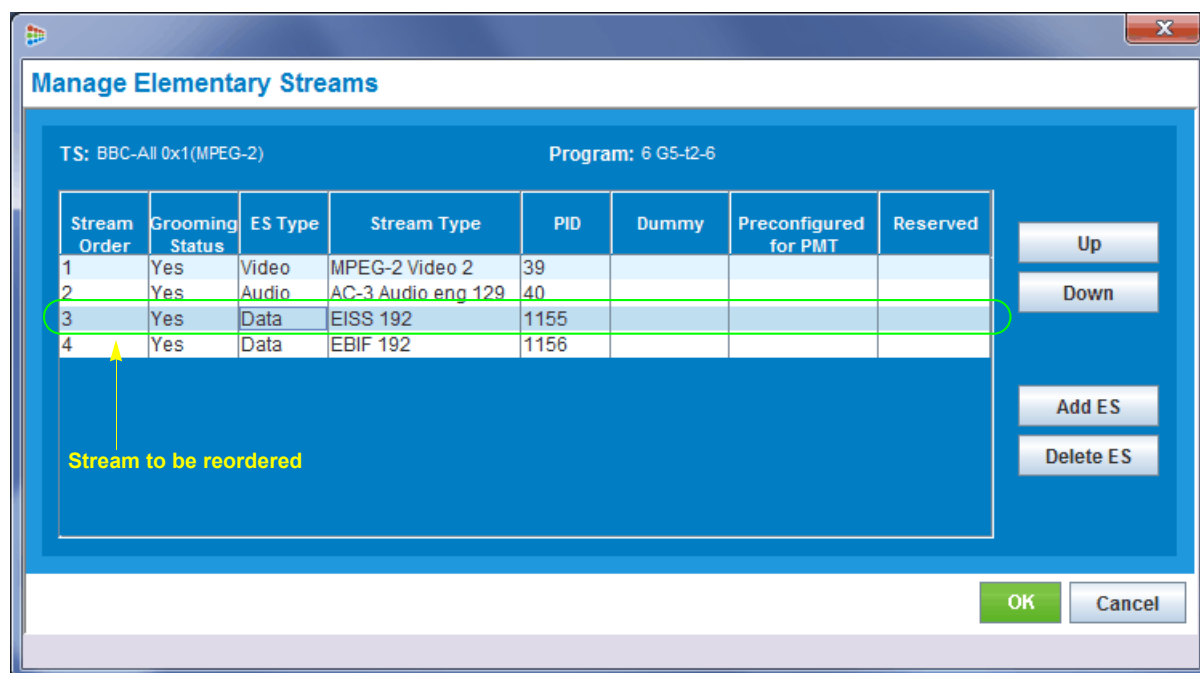

Figure 159. Reordering an Elementary Stream
- Highlight the stream you want to reorder (Figure 159).